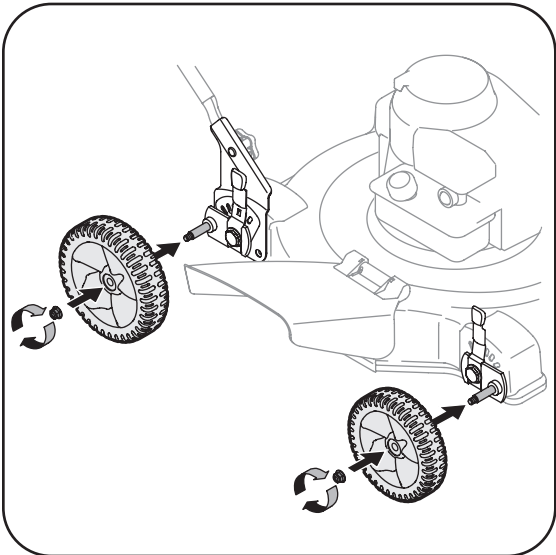

Figure 3-9: Install the wheels.
2. Place the larger two wheels on the rear pivot arm axles and secure with the flanged lock nuts, Figure 3-9.
3. Repeat with the two smaller wheels on the front pivot arm axles, Figure 3-9.